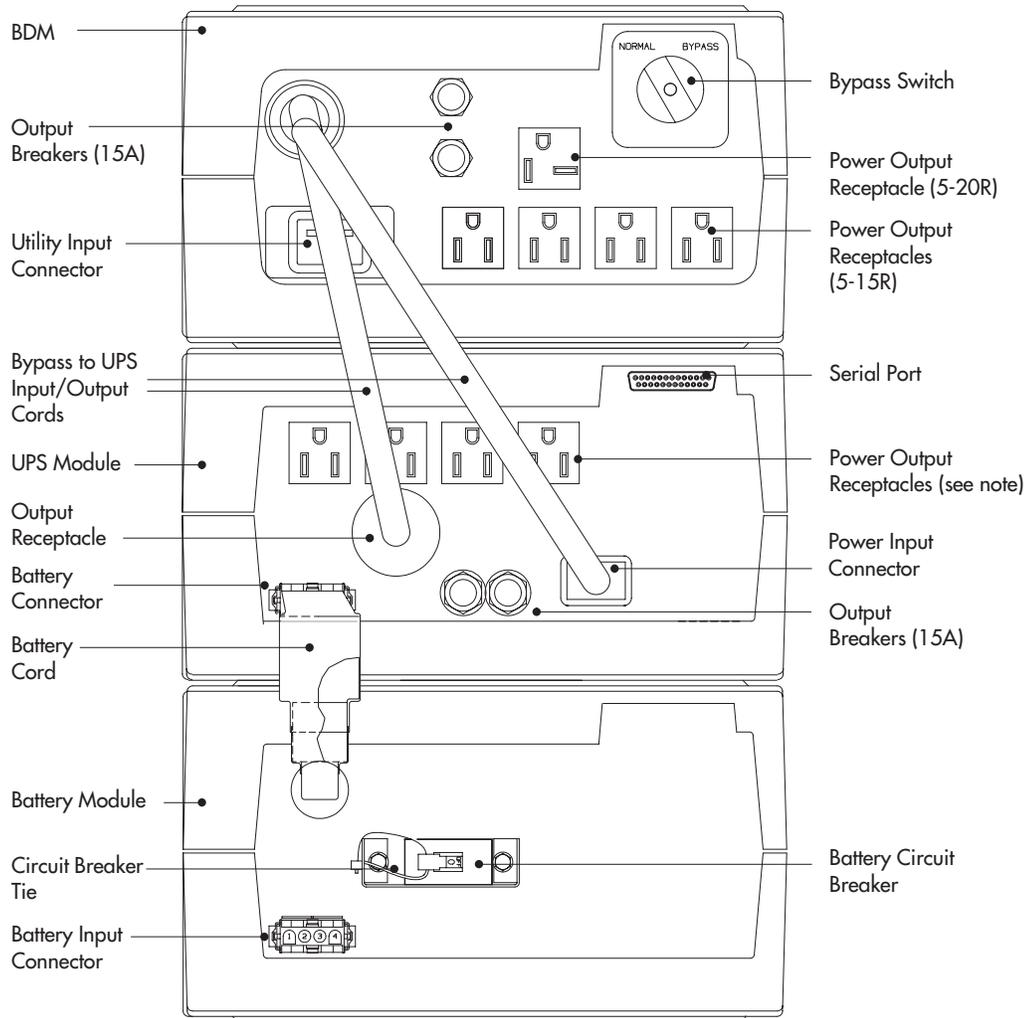

Figure 6. UPS with BDM Rear Panel
- 3** Make sure the circuit breaker on all battery modules is in the OFF (O) position (see Figure 6).
- 9** Plug the input and output cords of the BDM into the power connectors on the UPS as shown in Figure 6.
- 2** Turn the Bypass switch on the BDM rear panel to the NORMAL position (see Figure 6 on page 25).